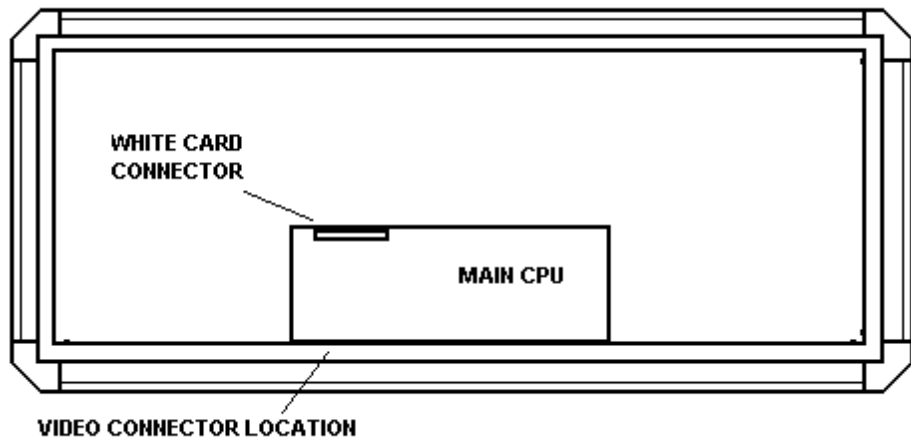

Figure A.7 Location of CPU and Video cards
4. Locate the Main Processor Circuit card. (See Figure A.7)
6. Insert Secondary Video card, aligning the video connector with the back panel and the white card connect facing the processor card. Press the white connector together. (see Figure A.7 on next page)